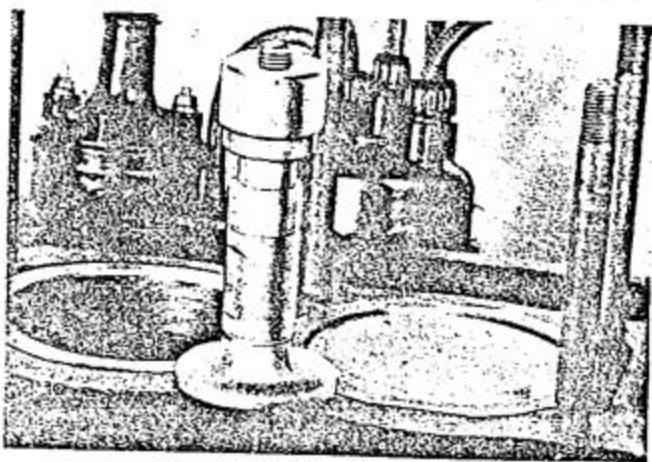

Fig. 20. Showing one of the two retainers required to prevent sleeve movement
the other face. Immediately after removal of the cylinder head sleeves, retainers should be applied as shown in Fig. 20. In the event of sleeve movement, when the cylinder head is lifted, new figure of eight packings should be fitted, the undersides of which should be treated with jointing compound to prevent their being lifted by sleeve movements, if such movement occur. Remove push rods and tappets.
- Remove cylinder head by unscrewing ten $\frac{11}{16}$ " A/F nuts, watching for any signs of cylinder sleeve movement and where such occurs ensure that damage has not occurred to figure of eight sleeve packings. Deal with sleeve packing damage by fitting replacements and applying jointing compound to the bottom faces to fix in position (see remarks regarding removal of cylinder head gasket under "Reassembly"). Fit cylinder liner retainers shown in Fig. 20 to prevent sleeve movement if, or when, the engine has to be turned by hand. *Do not attempt to "break" the seal of the cylinder head by turning the crank as this will possibly cause the sleeves to move.*